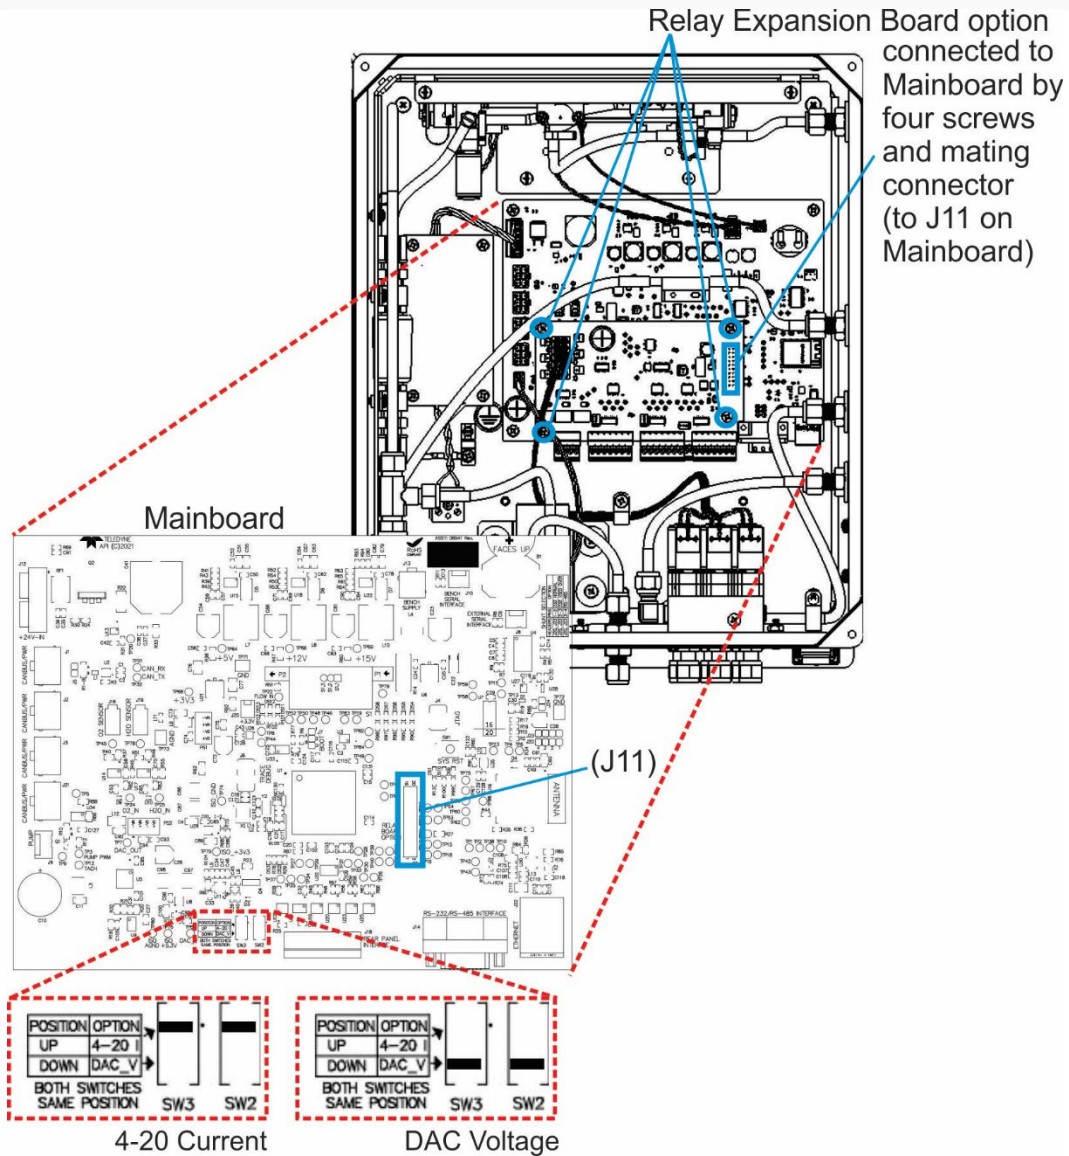

Figure 3-5. Mainboard – Analog Output Configuration
To change or verify the configuration of the analog output, refer to Figure 3-5 while performing the following instructions:
4. Set the desired output as shown in Figure 3-5 where: